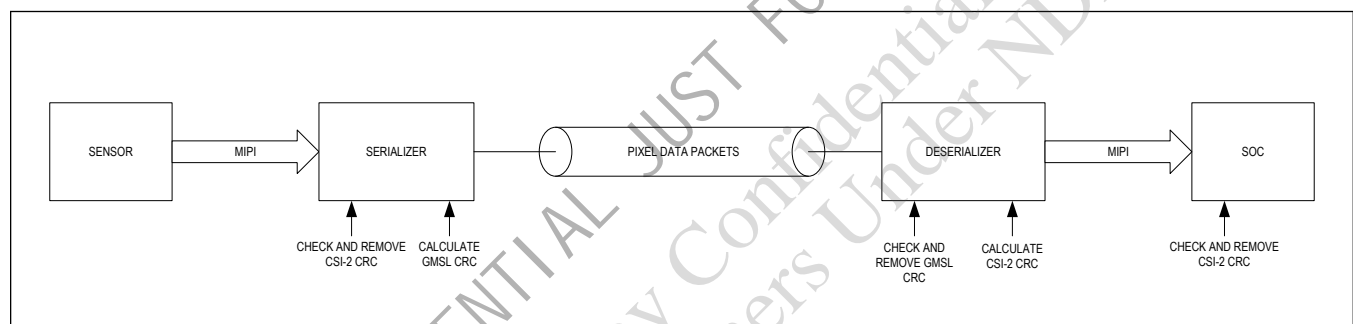

Figure 24. Pixel Mode
The MAX96792A is specifically designed for Advanced Driver Assistance Systems (ADAS), where data integrity is a key safety requirement. Prior GMSL2 solutions supported only the pixel mode to transport MIPI CSI-2 data over the GMSL link. In the pixel mode, the CSI-2 headers and footers are removed in the serializer, and the video data is sent to one or more video pipes. The CSI-2 header includes the Data Type (DT) and Virtual Channel (VC), which is sent separately as an info-frame. The header also includes an ECC (Error Correction Code), which is also removed. The packet footer contains the CSI-2 CRC (Cyclic Redundancy Check). The serializer combines video-line data from the video pipe (or pipes) with control-channel data and adds CRC to the GMSL3 packet. Removing the headers and footers optimizes the bandwidth of the GMSL link when in the pixel mode, and provides flexibility in how different data types are packetized and number of video pipes used. The deserializer receives the data and verifies the GMSL3 packet-CRC. The sensor data is then used to recreate the header and footer, ECC, and CRC, respectively, in the deserializer to duplicate the CSI-2 data received by the serializer. See Figure 24.